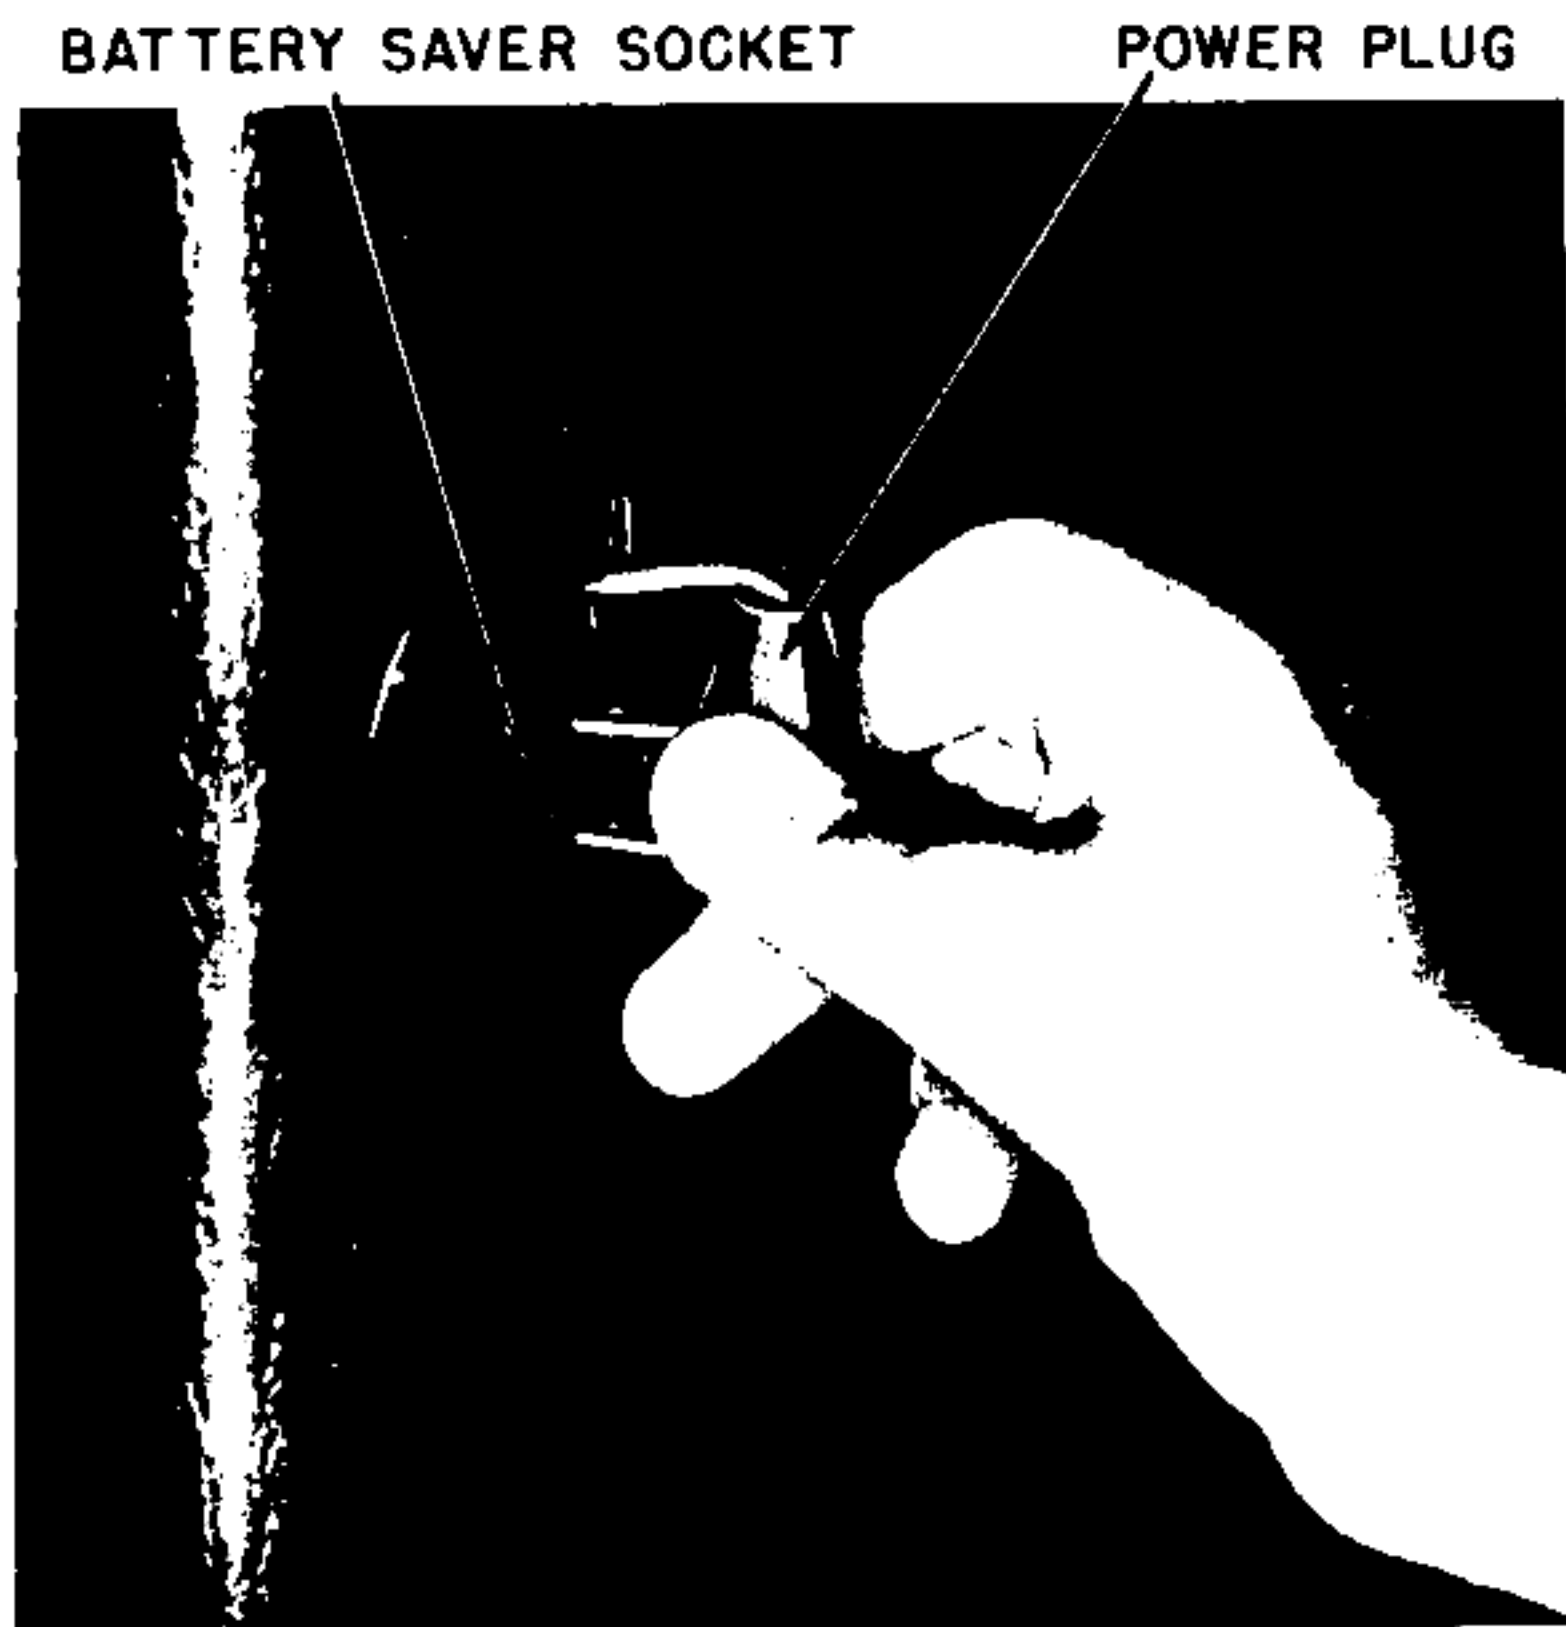
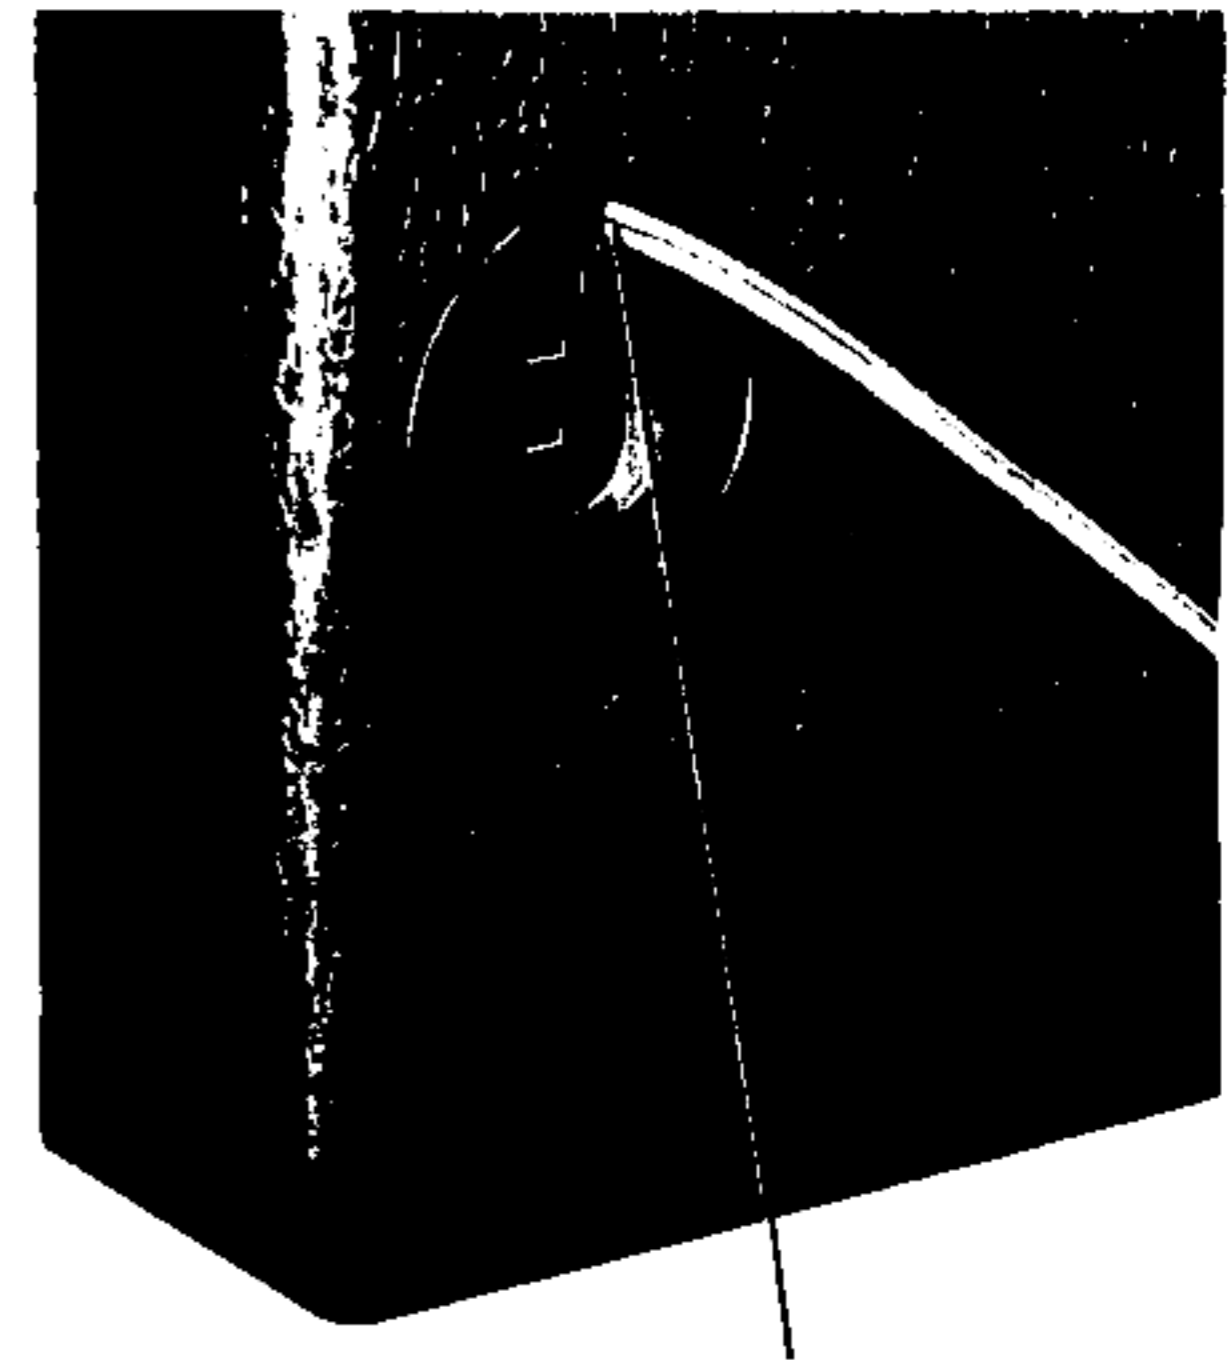

Figure 2—Insertion of 110 Volt Plug Into Battery Saver Socket.
Figure 3—Power Cord Captivated in Retaining Slot.
- A. The 110-volt plug must be placed in the battery saver socket provided in order for the receiver to operate on the Z985 dry battery pack. (See fig. 2.) The excess 110-volt line cord is automatically taken up by the line cord reel inside the cabinet.
- A. To operate the receiver on 110-volt 60 cycle Alternating Current or 110-volt Direct Current it is only necessary to remove the power plug from the Battery Saver Socket at the side of the receiver, (See fig. 2.), pull out the Power cord and captivate it in the retaining slot, (See fig. 3).